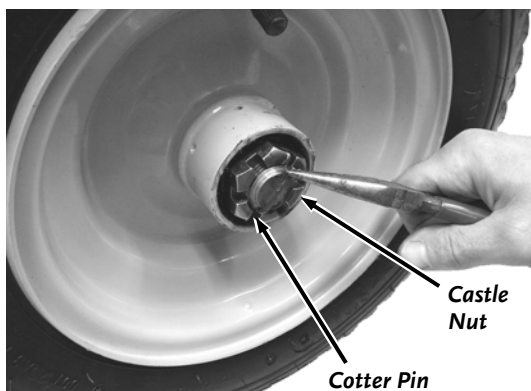

Figure 61
3. Using pliers remove the Cotter Pin and back the Castle nut off (**Figure 61**).